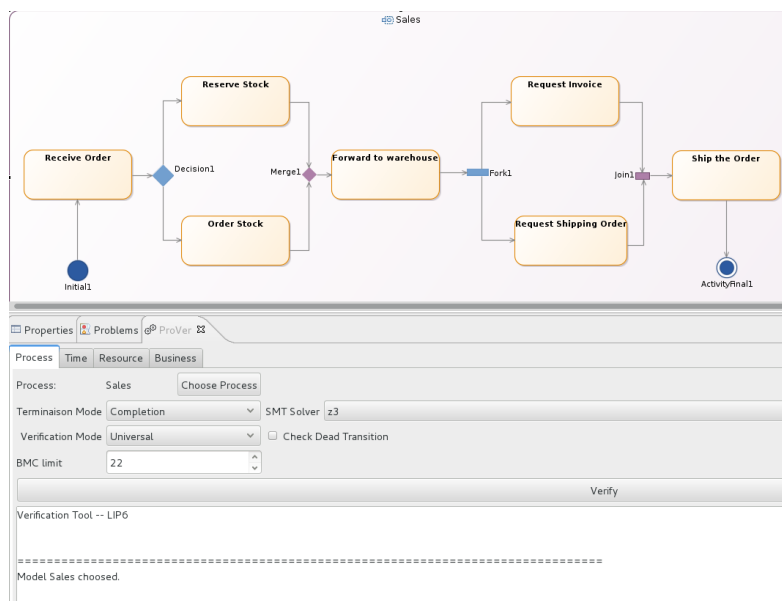

**Figure 31 Import new project**
2. In this dialog box, choose `Existing Projects into Workspace` in `General` (see Figure 31 Import new project)